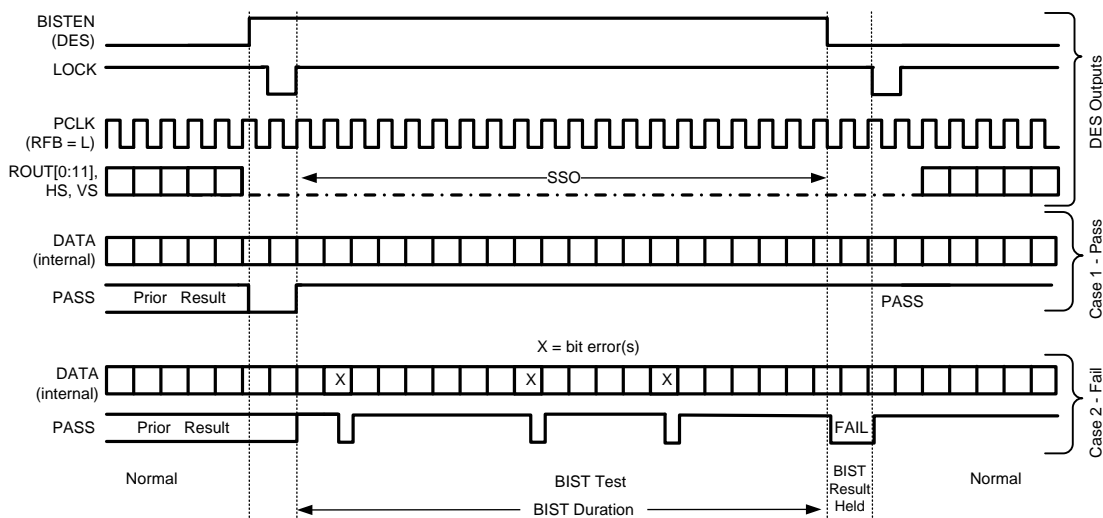

Figure 42. BIST Timing Diagram
Step4. The link returns to normal operation after the deserializer BISTEN pin is low. Figure 42 shows the waveform diagram of a typical BIST test for two cases. Case 1 is error free, and Case 2 shows one with multiple errors. In most cases, it is difficult to generate errors due to the robustness of the link (differential data transmission etc.), thus they may be introduced by greatly extending the cable length, faulting the interconnect, or by reducing signal condition enhancements (Rx equalization).